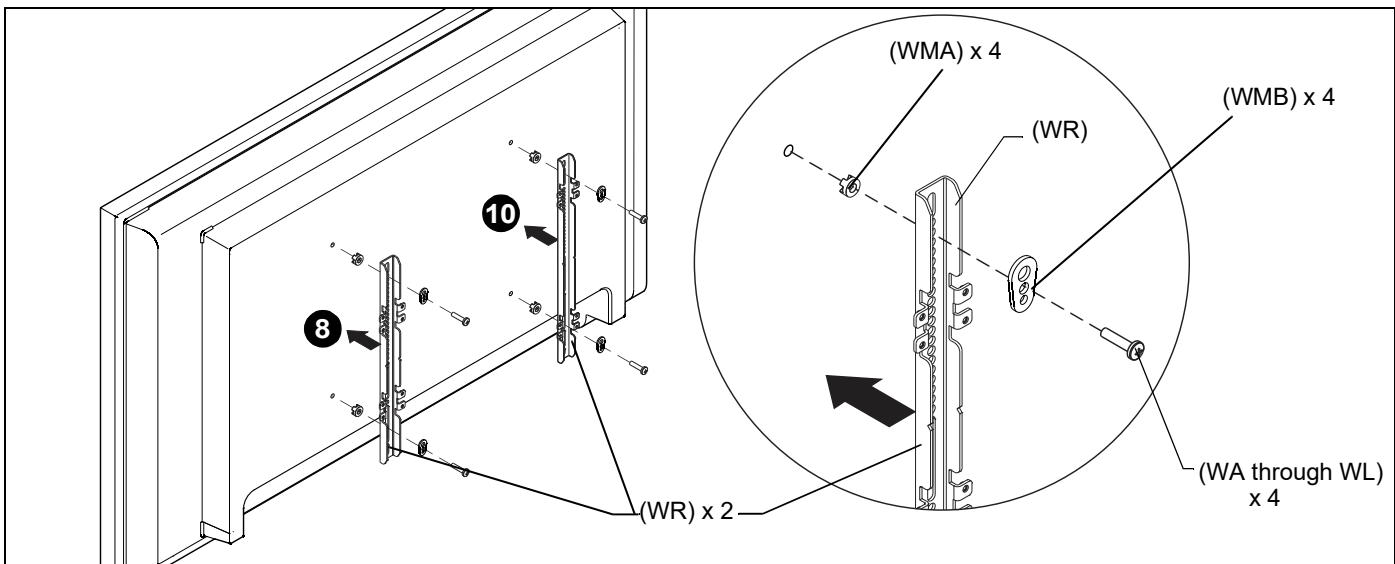

**Figure 15**
3. Determine and mark the vertical center position between the Left side Upper and Lower mounting holes in display. (See Figure 15)
4. Determine and mark the vertical center position between the Right side Upper and Lower mounting holes in display. (See Figure 15)
5. Orient vertical mounting bracket (WR) so that mounting holes are on top and mounting slots are on bottom. (See Figure 15)
7. Adjust vertical mounting bracket (WR) position until mark made in Step 1 aligns with center mark in vertical mounting bracket (WR).